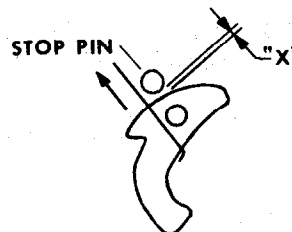

Figure 4. Flyweight/Axle Wear Check (Pull)
a. Rotate the impulse coupling so that the flyweight axles are adjacent to the stop pins. Pull the flyweight toward the stop pin using the same wire hook, and in the same manner as used in the preceding clearance check. (See figure 4)
b. Insert feeler gages between the stop pin and flyweight to measure the clearance ("X" of figure 4) while the flyweight is held outward. Maintain constant outward pressure on the flyweight while measuring clearance to ensure an accurate clearance check is being made, and record measurement "X".